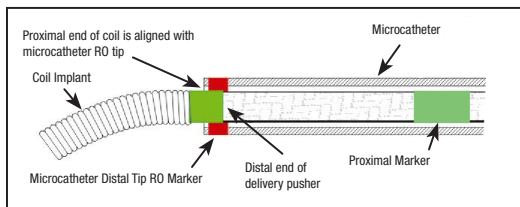

Figure 4 – Position of Marker Bands for Detachment
26. Advance the coil into the desired site until the radiopaque marker on the delivery pusher is aligned or slightly distal of microcatheter distal tip RO marker, positioning the detachment zone just outside the microcatheter tip. See Figure 4.